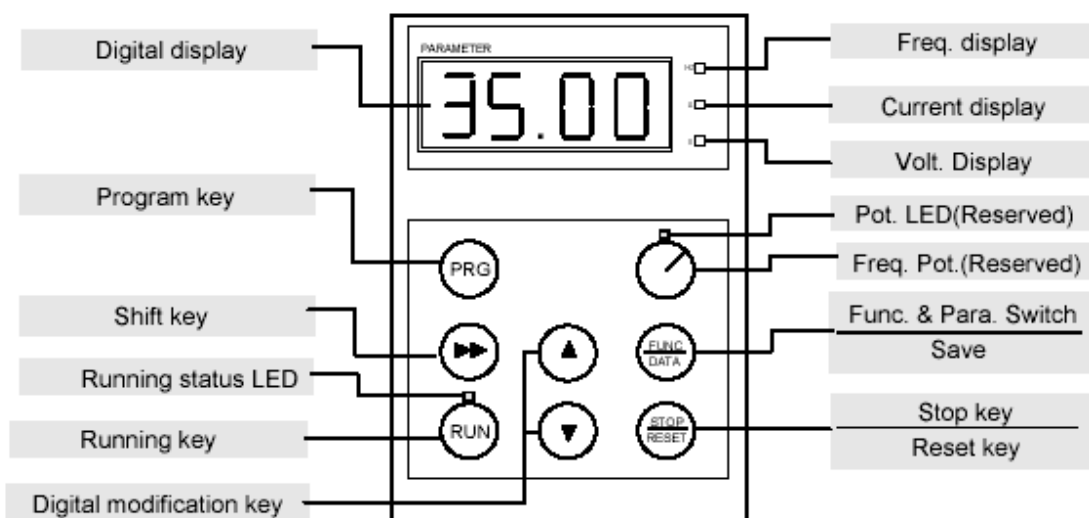

Fig. 2-1 (Operation panel)
2.1 Operation Panel and Status Display Units: Fig. 2-1